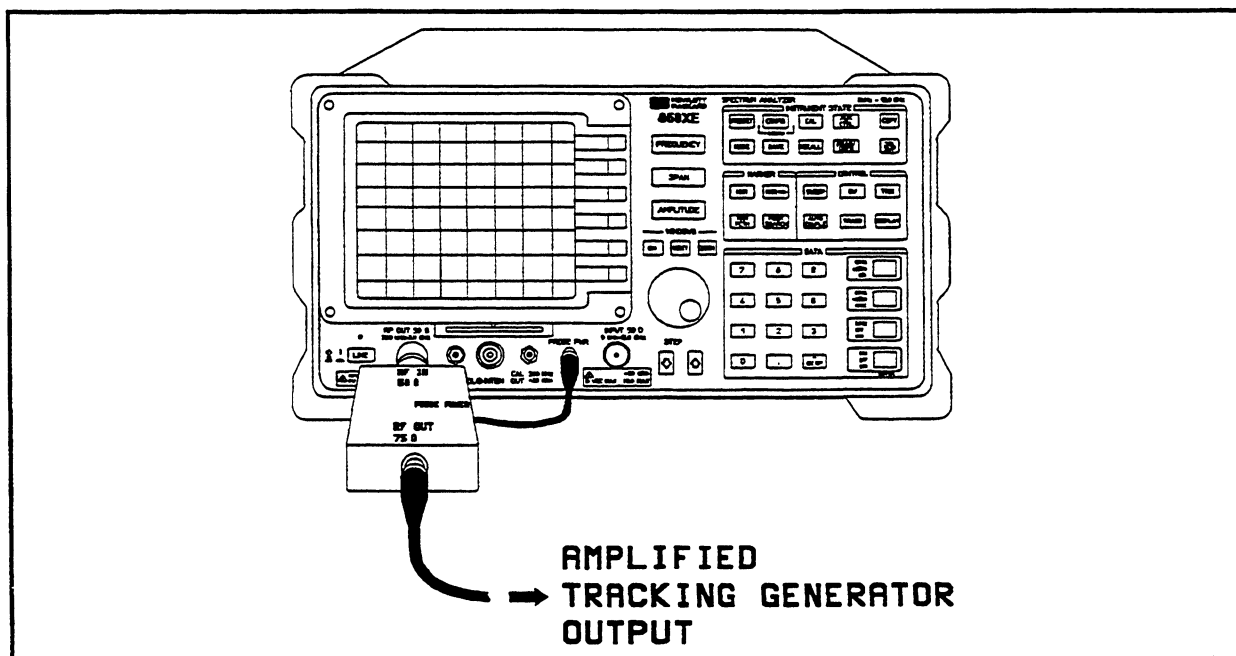

Figure 2-1. TG Amplifier Connections
3. The amplified tracking generator signal is taken from the HP 11767A RF OUT connector as shown in Figure 2-1.